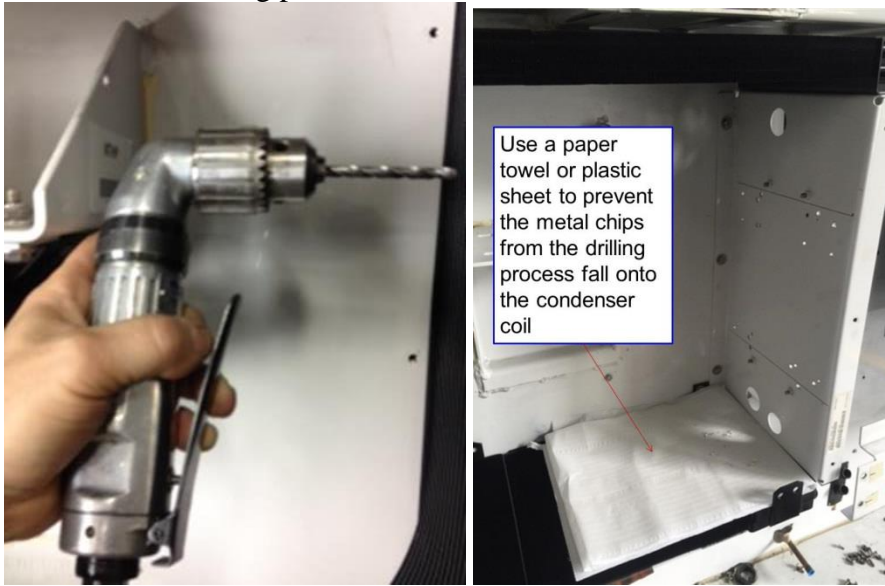

Figure 7
- 1.4 Drill a pilot hole using a right angle drill (Figure 7 or a comparable 90° drill) and a size 4mm (0.16in) drill bit. Then use a size 8mm (0.31in) drill bit to drill the pilot hole to the required dimension. Place a rag or plastic sheet on the condenser coil surface to catch the metal debris from the drilling process (Figure 7)